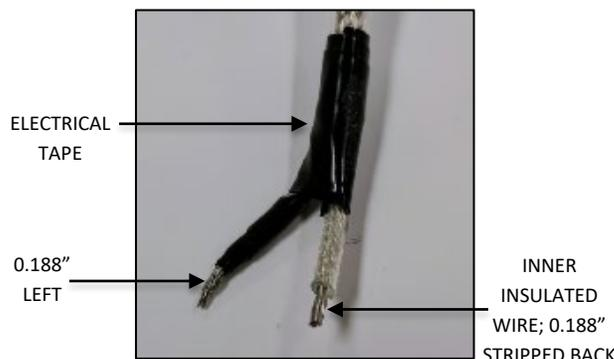
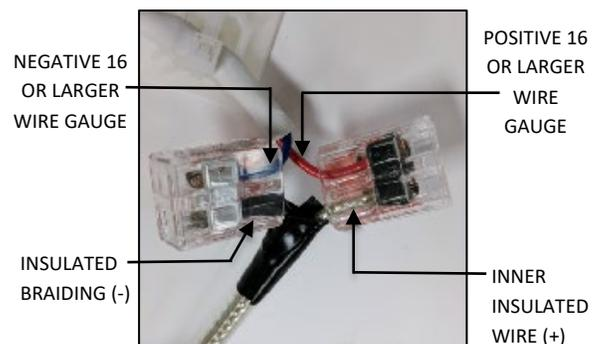

FIG. 19
FIG. 20
3. Using electrical tape, insulate the twisted strands leaving 0.188" exposed for connections. Strip off 0.188" of the inner insulation as you normally would for 18AWG stranded core wire as shown in FIG. 19 below. Connect the inner insulated wire (+) to the positive 16 gauge or larger wire ran in step 5 at the hanging bracket and Connect the outer braiding (-) to the negative 16 gauge or larger wire ran in step 5 at the hanging bracket FIG. 20 below.